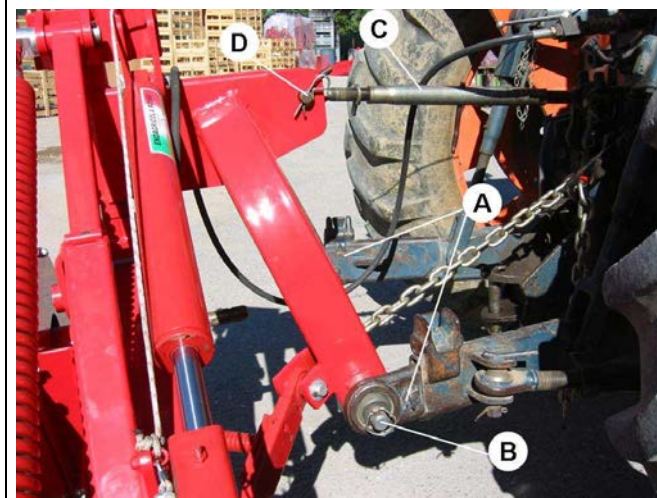

Fig. 20
NB: The mower must be attached to a tractor with a power takeoff of 540 rpm and to a 3-point attachment (Fig. 20).
- 1) Insert the tractor's lifting arms **A** (Fig. 20) into attachment pins **B** and fasten them with split pins.
- 2) Insert 3rd point **C** and fasten it with pin **D** (Fig. 20).